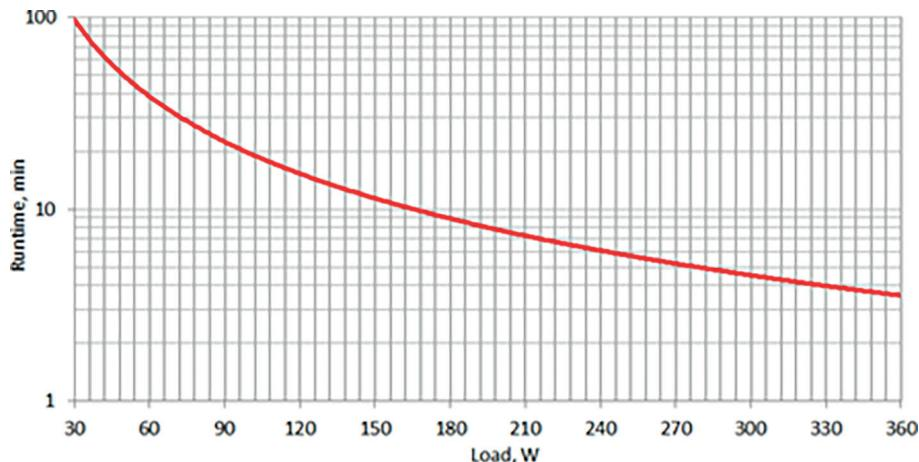

Figure 4. INFOPDU600 / INFOPDU600PL / INFOPDU600LCD autonomous operation schedule
4. Check whether the discharge time corresponds to the values given in figures 4 to 5. If the discharge time decreases by more than 50%, replace the batteries.